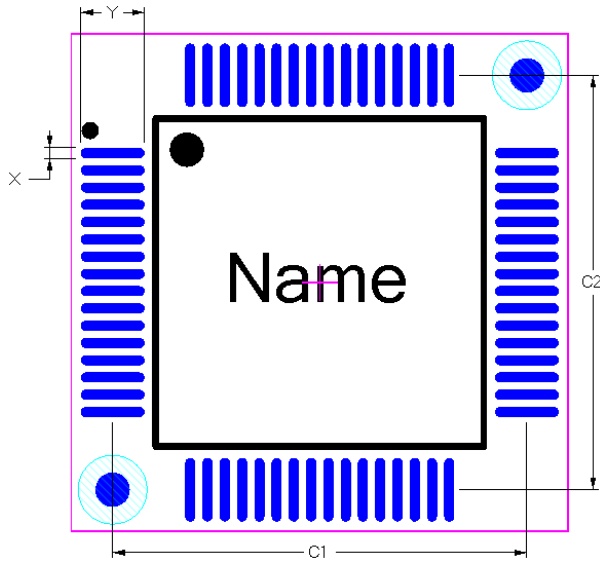

Figure 1
- Pin pitches, land size round-offs “X, Y” are on 0.05mm increments and land centers “C” are on 0.1mm increments. *See Figure 1.*